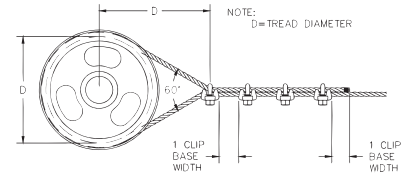

Figure 4
4. If a pulley (sheave) is used in place of a thimble, add one additional clip. Clip spacing should be as shown (See Figure 4).